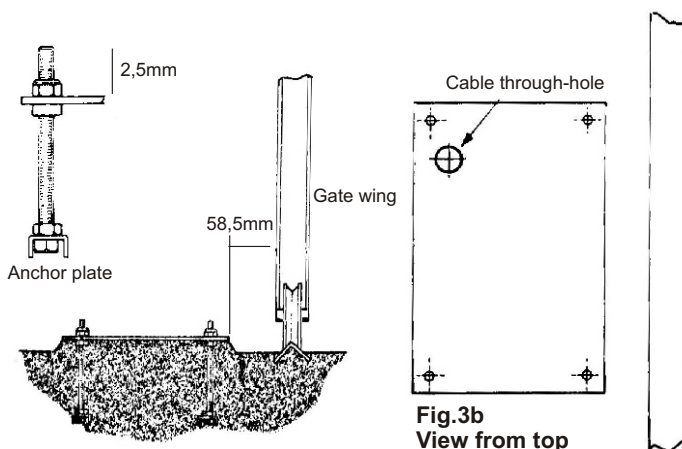

Fig.3b
- Arrange plate so that cable through-hole's position is as shown in the fig.3b